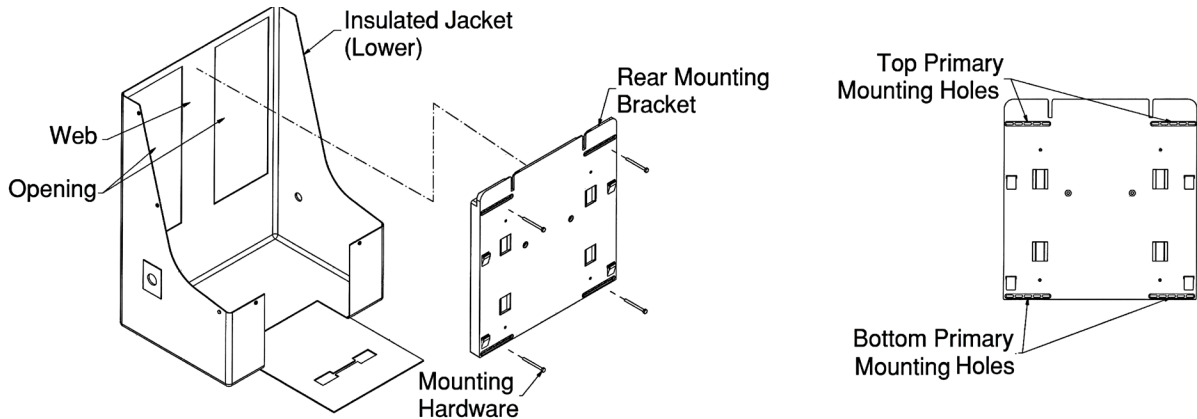

FIGURE 1
Step 1. Rear Mounting Bracket (Ref Figure 1)